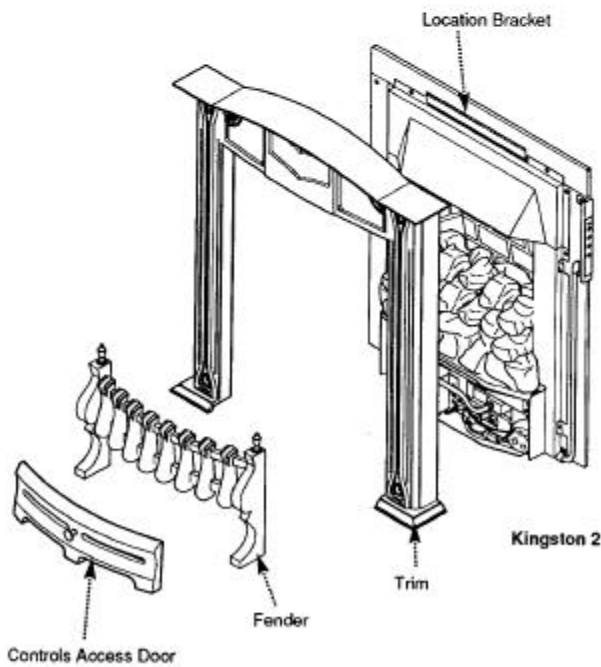

Fig. 34
9.3 Kingston 2 Models (Fig. 34)
1. Take the outercase location bracket from the kit and fasten it using the existing 2 screws to the canopy (Fig. 34). This will now mate with the bracket on the back of the trim.